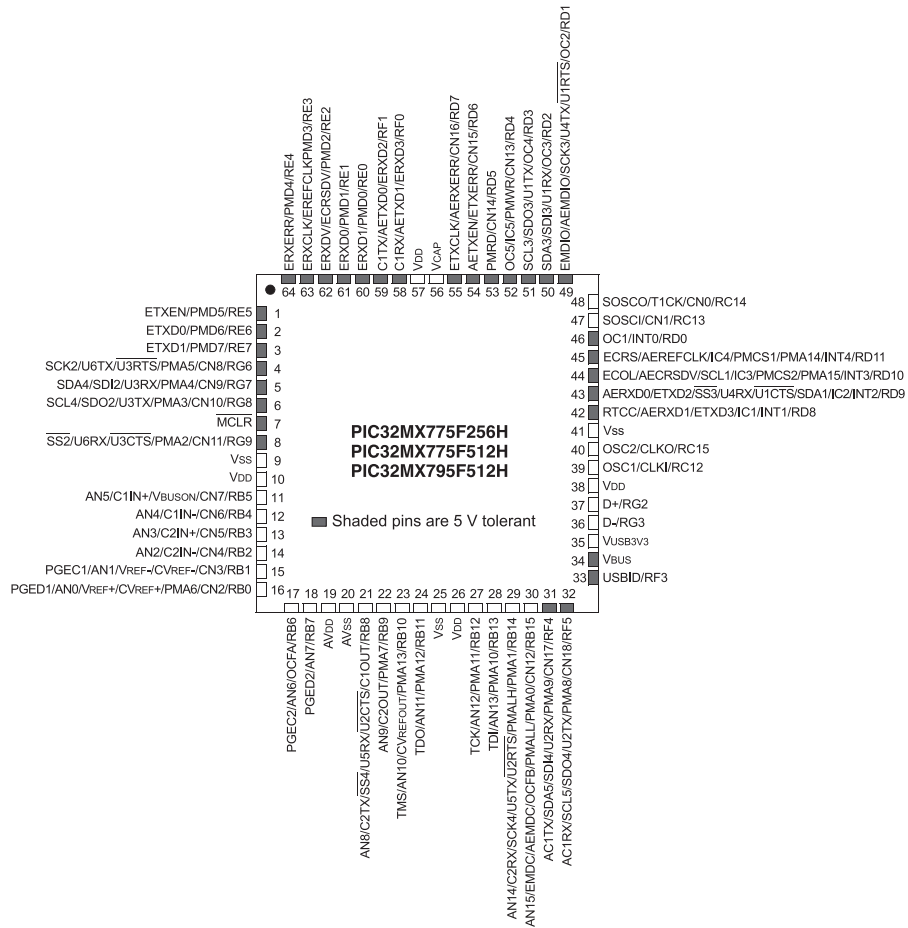

Figure 2.1
Pins connect the peripherals to the outside world. To cram so much functionality into only 64 pins, many serve multiple functions. See the pinout diagram for the PIC32MX795F512H (Figure 2.1). For example, pin 12 can be an analog input, a comparator input, a change notification input (which can generate an interrupt when an input changes state), or a digital input or output.
For example, pin 51 in Figure 2.1 can be OC4 (output compare 4) or RD3 (digital I/O number 3 on port D). If we wanted to use pin 51 as a digital output we would set the SFRs that control this pin to disable the OC4 functionality and enable RD3 as a digital output. The Data Sheet explains the memory addresses and meanings of the SFRs. Be careful, because it includes information for many different PIC32 models. Looking at the Data Sheet section on Output Compare reveals that the 32-bit SFR named “OC4CON” determines whether OC4 is enabled. Specifically, for bits numbered 0-31, we see that bit 15 is responsible for enabling or disabling OC4. We refer to this bit as OC4CON(15). If it is cleared (0), OC4 is disabled, and if it is set (1), OC4 is enabled. So we clear this bit to 0. (Bits can be “cleared to 0” or simply “cleared,” or “set to 1” or simply “set.”) Now, referring to the I/O Ports section of the Data Sheet, we see that the input/output direction of Port D is controlled by the SFR TRISD, and bits 0-11 correspond to RD0-RD11. Bit 3 of the SFR TRISD, i.e., TRISD(3), should be cleared to 0 to make RD3 (pin 51) a digital output.
to 5.5 V, while voltages over 3.3 V on other pins could damage the PIC32 (see Figure 2.1 for the pins that can tolerate 5.5 V).